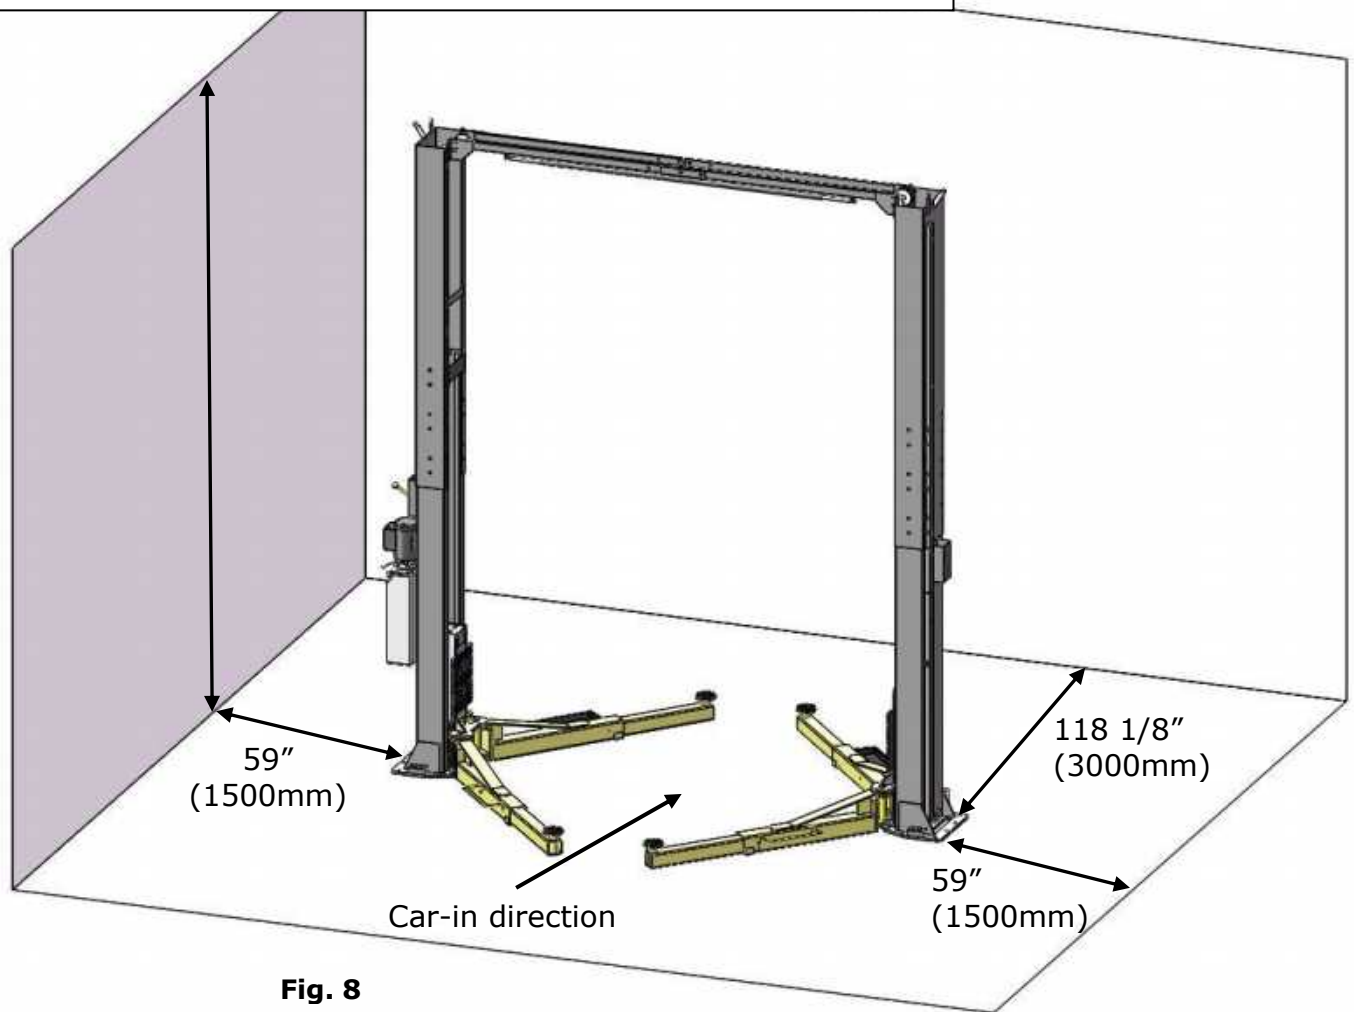

Fig. 8
1. Installation space: Ensure there is enough space for the lift. Accurately measure the front, back, side and top mounting dimensions and refer to the below figure data (**See Fig. 8**).